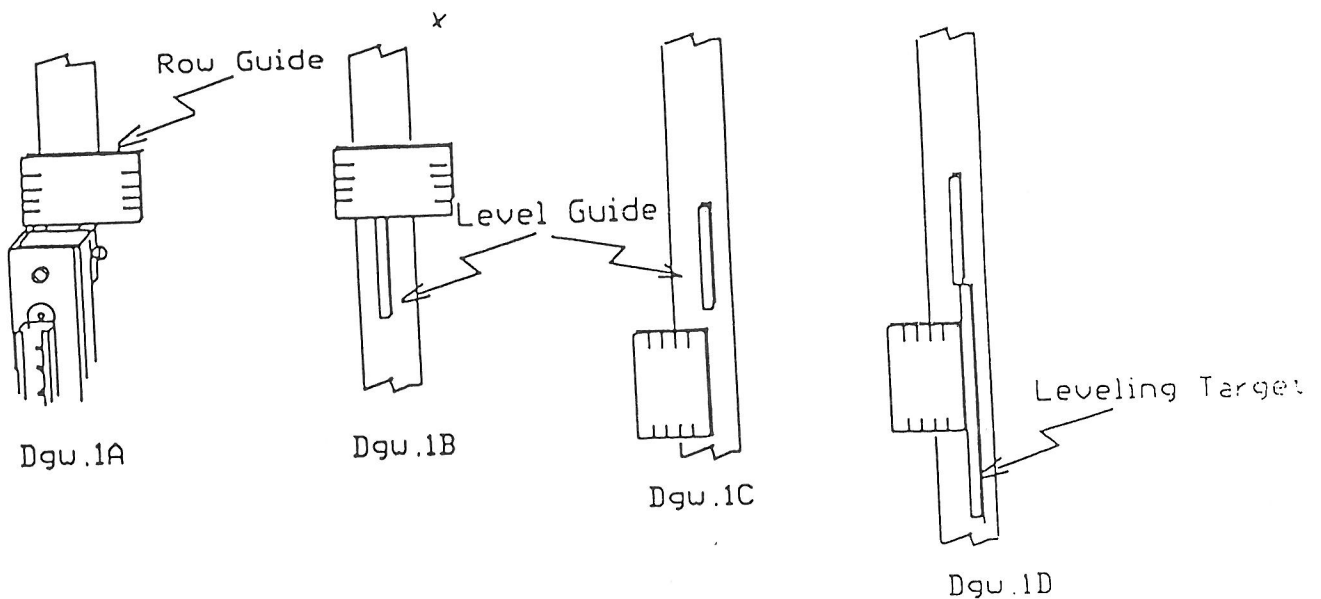
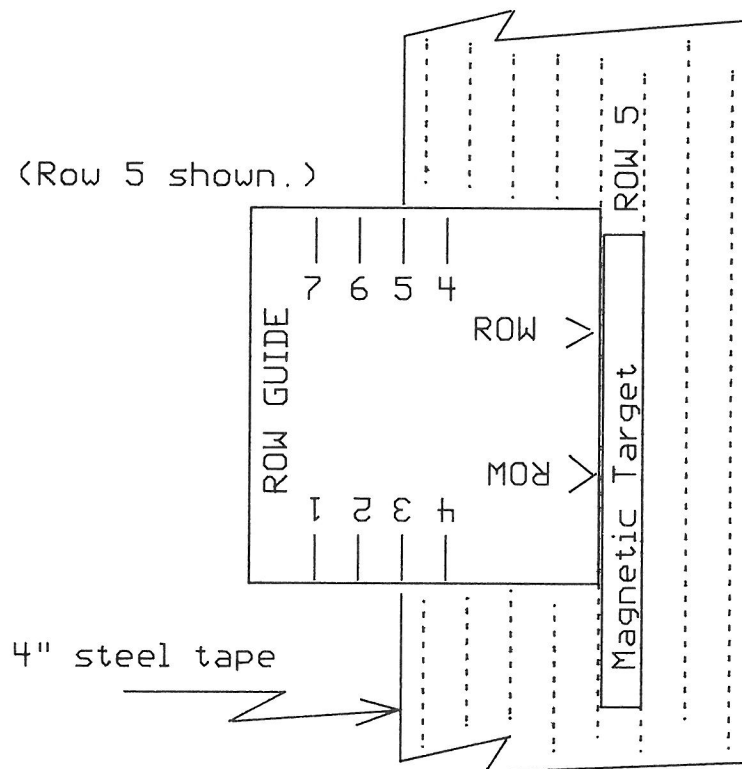

Figure 4. Leveling Target
Figure 5. Row Guide for 4" Tape
5. Set elevator level at the floor and install the Leveling Target. (Figures 4, 5 & 6, Guide To Leveling Target)
- 7.* Down Slowdown Target. In the down slowdown row, measure from the Leveling Target, up to the slowdown distance required for your job. (Figure 5, Row Guide)
- 8.* Up Slowdown Target. In the up slowdown row, measure from the Leveling Target, down to the slowdown distance required for your job. (Figure 5, Row Guide)
1. With elevator level at floor, place Row Guide across top of leveling unit as shown in figure 4, Dwg 1a.
2. Move the elevator down and place the Level Guide below the Row Guide, figure 4, Dwg 1b.
3. Use the Row Guide to locate the leveling row for your job. See figure 4, Dwg 1c and figure 5.
4. Peel the white backing from the leveling target. Position the adhesive side of this target to the steel tape, in the leveling row. Figure 4, Dwg 1d.
Align Row Guide on steel tape according to the row desired (see figure 5). Remove protective backing from target and place target adjacent to the Row Guide.